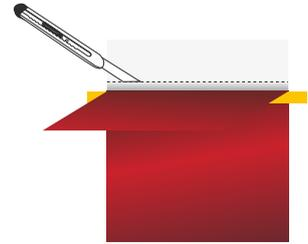

Figure 04
- › Peel off 10 cm (4 in.) of the liner. (FIG. 04)